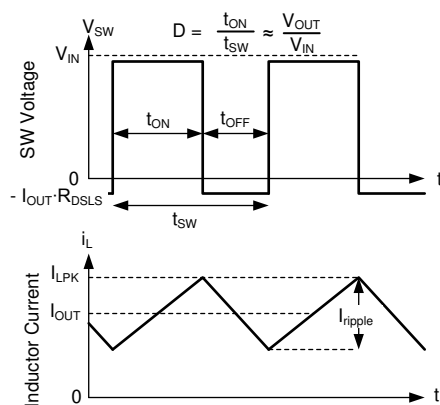

図 9-16. SW Voltage and Inductor Current Waveforms in Continuous Conduction Mode (CCM)
The following operating description of the LM61460-Q1 refers to セクション 9.2 and to the waveforms in 図 9-16. In CCM, the LM61460-Q1 supplies a regulated output voltage by turning on the internal high-side (HS) and low-side (LS) NMOS switches with varying duty cycle (D). During the HS switch on-time, the SW pin voltage, V_{SW} , swings up to approximately V_{IN} , and the inductor current, i_L , increases with a linear slope. The HS switch is turned off by the control logic. During the HS switch off-time, t_{OFF} , the LS switch is turned on. Inductor current discharges through the LS switch, which forces the V_{SW} to swing below ground by the voltage drop across the LS switch. The converter loop adjusts the duty cycle to maintain a constant output voltage. D is defined by the on-time of the HS switch over the switching period: